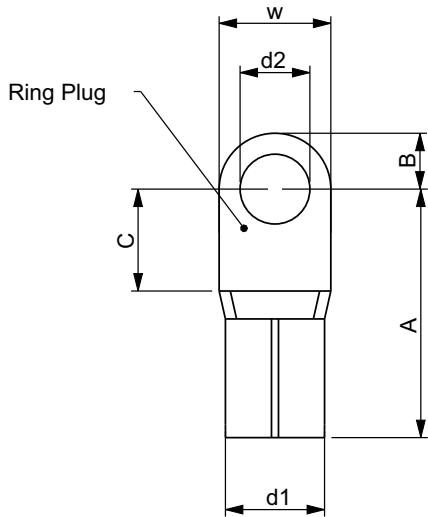

Figure 1
- For  $\geq 15$  kW, if the wire terminal is  $> 10\text{mm}^2$  (AWG 6), the ring lug is required for main circuit terminal connection, please refer to **Figure 1** for the specifications of the ring lug.